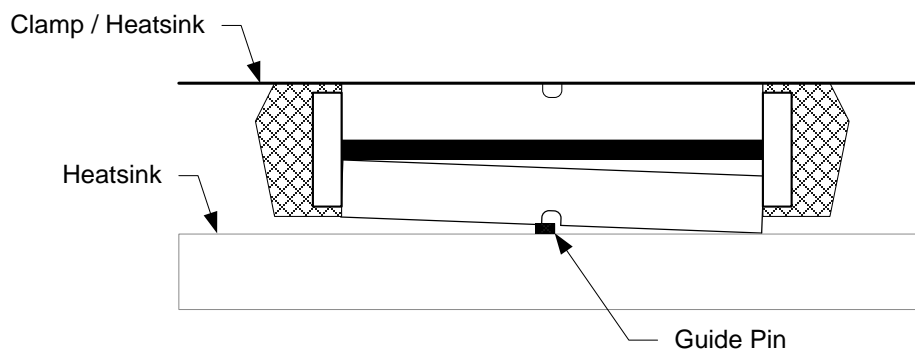
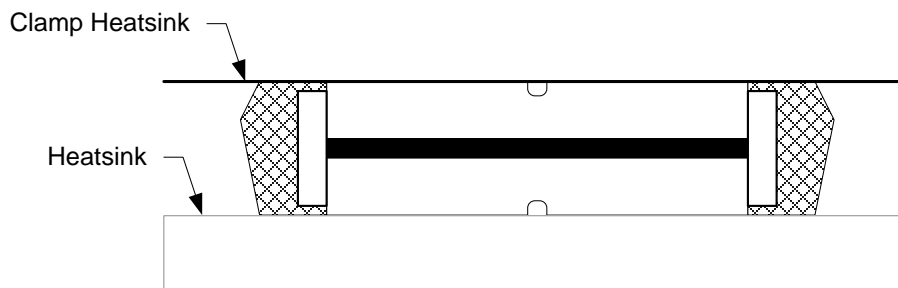

Figure 5 – Improper Alignment of the Centering Pin
Figure 6 – A properly mounted Hockey-Puk SCR
The exact centering of the Hockey-Puk on the mounting surface is important. As seen in Figure 5, the
Figure 6 shows the Hockey-Puk SCR installed properly. It is extremely important that the complete surface area of the mounting surfaces, the Pole Faces and the Silicon Wafer are touching entirely.
As seen in Figure 6, the Hockey-Puk's surfaces are completely aligned. All surfaces are touching perfectly. The electrical current and the heat will travel from one complete surface to the next complete surface. The Pole Faces are parallel to each other. When properly installed, the Hockey-Puk SCR will operate cooler and operate for a much longer time.
3. Verify the top and bottom mounting surfaces are parallel to each other, like shown in Figure 6, not as shown in Figure 5.